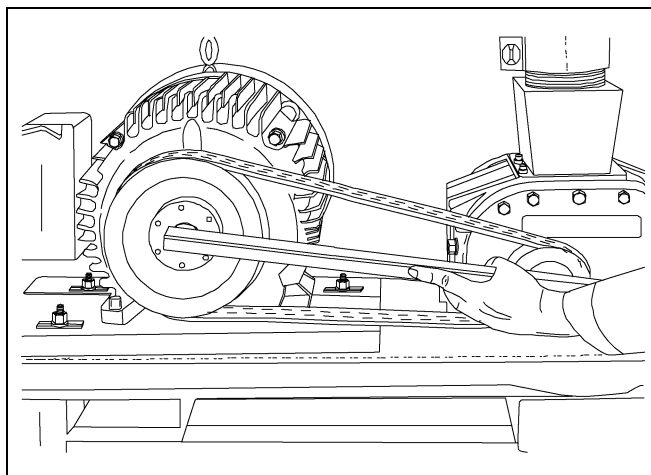

Figure 7E
4. Place the pulley and taper lock bushing onto the motor and align it with the blower pulley. (See Figure 7E.) Install the bushing on the inside of the sheave toward the motor.